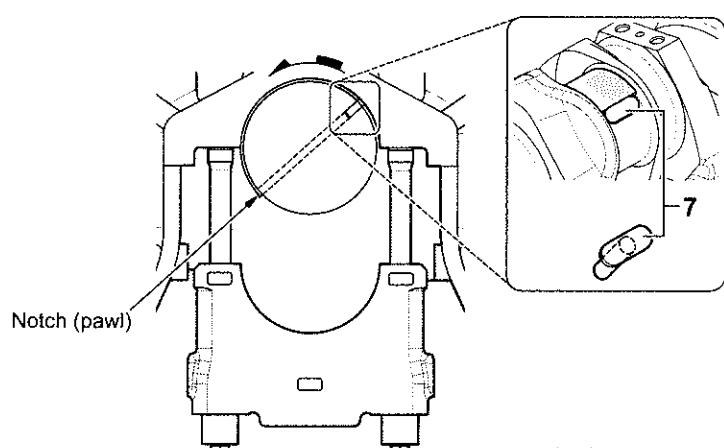

Fig.5 Removing the top bearing
- 16.Install the detaching pin 7 to the crankshaft oil hole that is on the non-operation side. (Install the detaching pin so that its head lies along the outer diameter of the crankshaft. Refer to Fig. 5.)